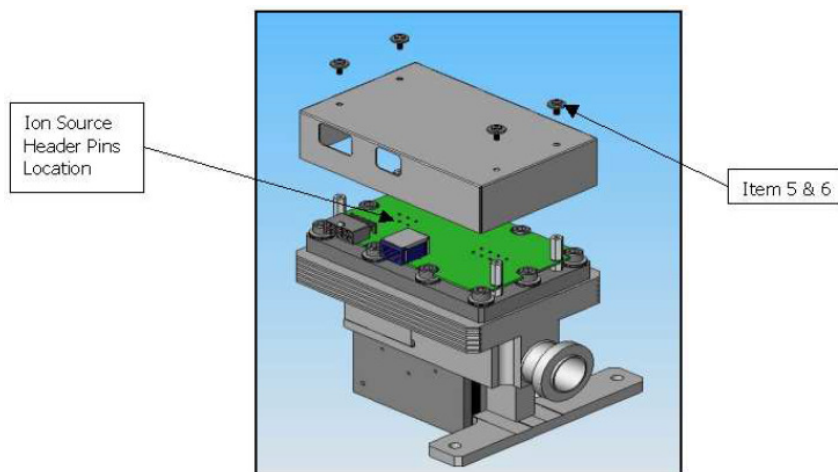

Figure 2-13. Ion source header pin locations
30. Place the spectrometer cover over the header and align the holes (Figure 2-13**Error! Reference source not found.**).
31. Install screws and washers (items 5 & 6), then tighten using a M3 Phillips screw driver (**Error! Reference source not found.**). Tighten one screw over the ground strap connector.